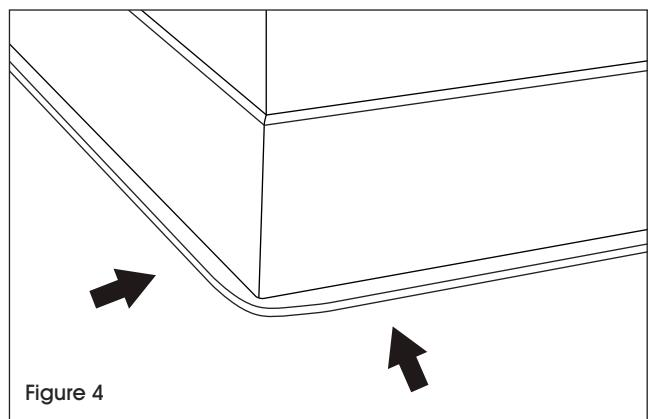

Figure 4
4. Apply adhesive and install. Press firmly to the wall and brace if needed. Use a clean, wet cloth to cool the base if hot from the heating process. (See Figure 4)